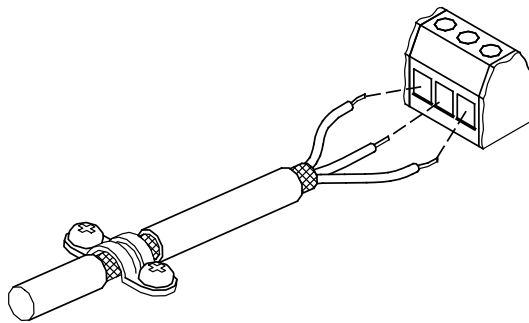

Fig. 45 Example of stripped cable with screen
- Leave the screen as close to the connecting terminals as possible. See fig. 45.